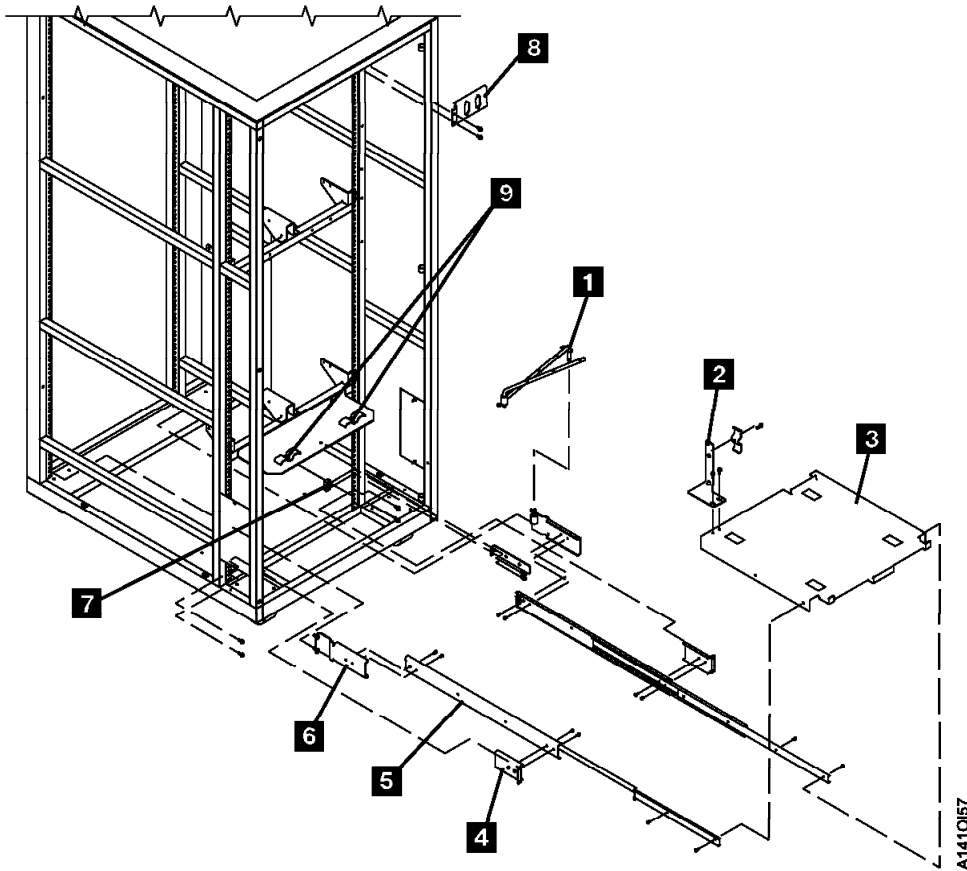

Figure 6-20. A50 Mounting Hardware in A14 Frame
**Note:** For the reverse keys called out in the steps below, refer to Figure 6-20 on page 6-38.